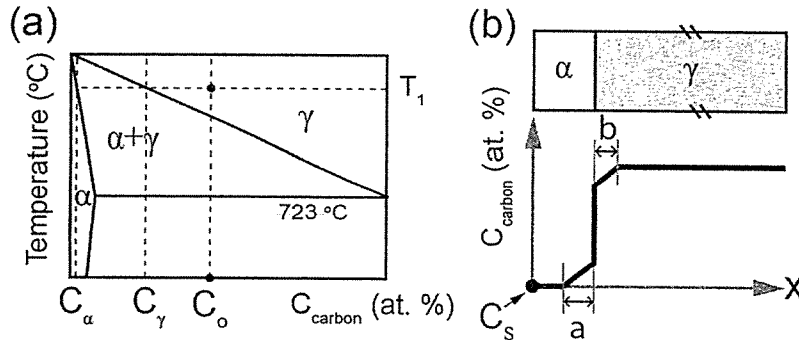

Figure 1(a) The Fe-C phase diagram and (b) the concentration profile across α/γ interface during phase transformation at T_1 .
1. As shown in **Figure 1(a)**, a Fe-C alloy with a carbon content of C_0 at. % was isothermally held at T_1 °C. Then, a decarburization was applied at the ferrite end, and therefore, ferrite (α) could start to grow into austenite (γ), which is a very long volume as shown in **Figure 1(b)**. The decarburization maintained the carbon concentration to be C_s at. % at the surface of ferrite. In **Figure 1(b)**, both concentration gradients are linear.